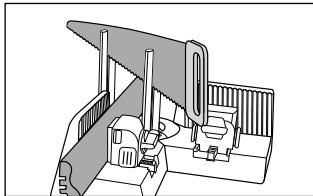

Fig. 10
- ◆ Using the other hand, guide the saw through the guide rods **7** from above (see fig. 10).